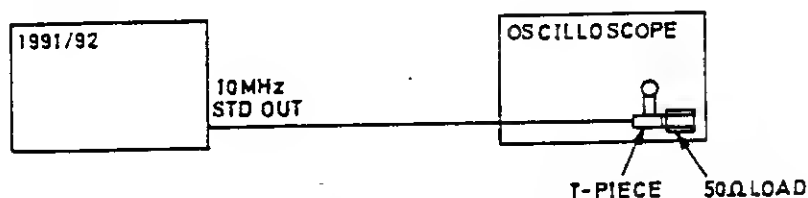

Figure 6.32 - Connections for 10 MHz Standard Output Level PVP
- Connect the test equipment as shown in Figure 6.32